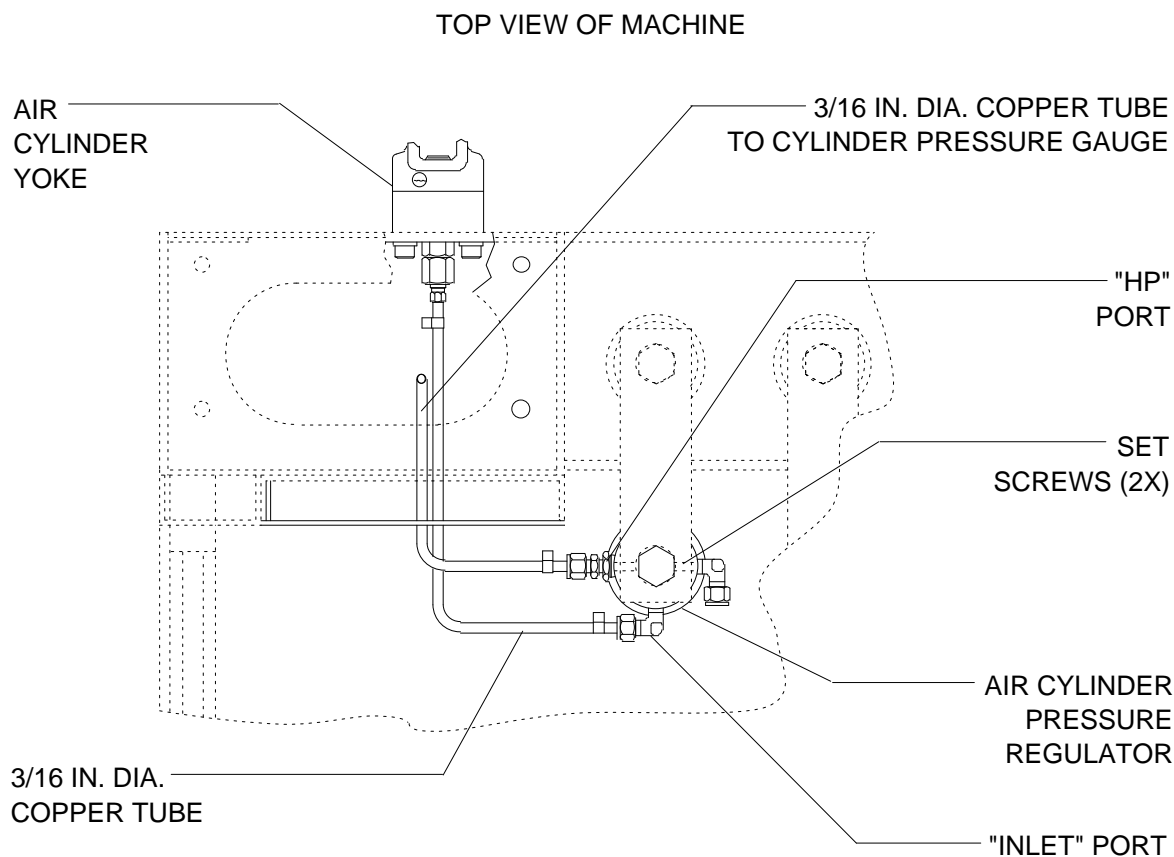

Figure 3: AIR CYLINDER REGULATOR MOUNTING AND H.P. CONNECTIONS
17. Position the air cylinder pressure regulator assembly as shown in Figure 3, with the Inlet marking toward the front of the machine.